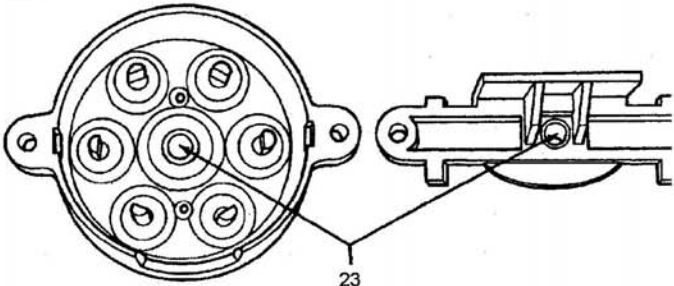

Figure 3
(3) Gummy or sticky distributor gear oilite bearing (23) indicates contamination. Check distributor block assembly according to instructions in Slick Maintenance and Overhaul Manual L-1037. See Figure 3.